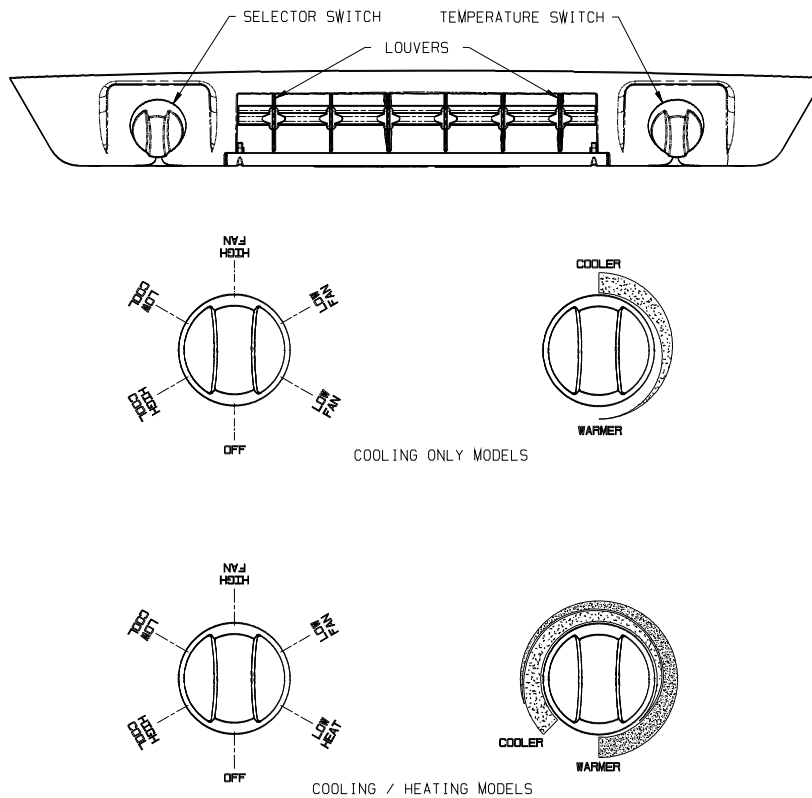

FIGURE 1
A. The Selector Switch – The selector switch determines which mode of operation the air conditioner will be in. By rotating the selector switch, the operator can obtain any system function desired. System functions vary depending upon options of both the roof top unit and ceiling assembly. Figure 1 shows selector switch location and lists all available functions by model.
For “Heat/Cool” models, the thermostat also controls the “ON” and “OFF” temperature settings of the heater assembly (See Figure 1).
- I. **For Cooling (Refer to Figure 1, page 3).**
### IV. For Heating (“Elect-A-Heat” Ceiling Assembly Model Only) Refer to Figure 1, page 3).
### V. For Air Circulation Only (Refer to Figure 1, page 3).